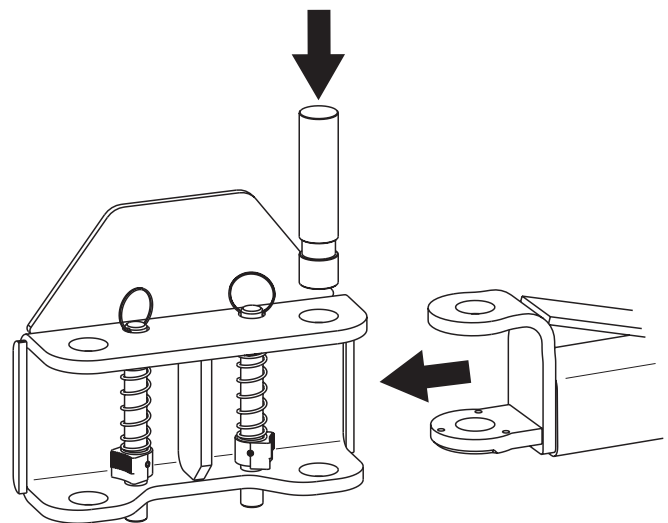

Fig. 17a
**17. Arms & Restraints:** Before installing arms, raise carriages to a convenient height. Grease swivel arm pins and holes with Lithium grease. Slide arm into yoke, Fig. 17a. Install 1-3/4" diameter arm pin(s), Fig. 17a.